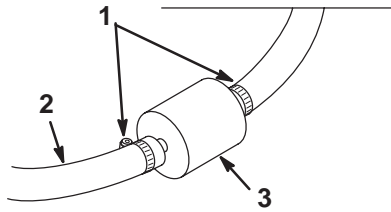

Figure 23
- Loosen the hose clamps and slide them up the hose, away from the filter (Fig. 23).
- Remove the filter from the fuel lines (Fig. 23).